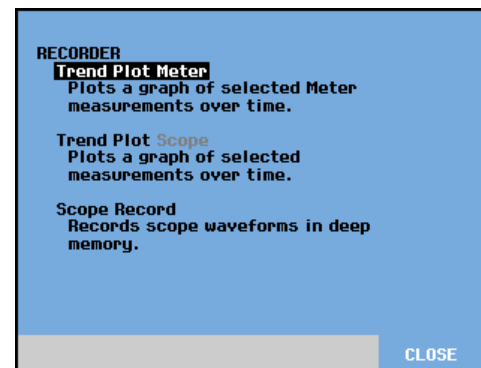

Figure 19. Recorder Main Menu
- 1 **RECORDER** Open the recorder main menu. (See Figure 19).